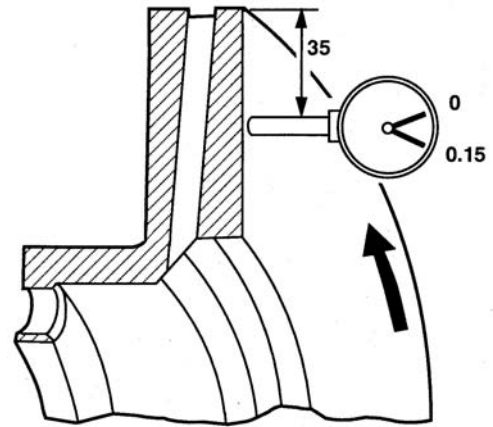

Fig. 12
- With the disc installed measure the runout by rotating the hub as shown in fig. 12. Limit 0.15 mm .